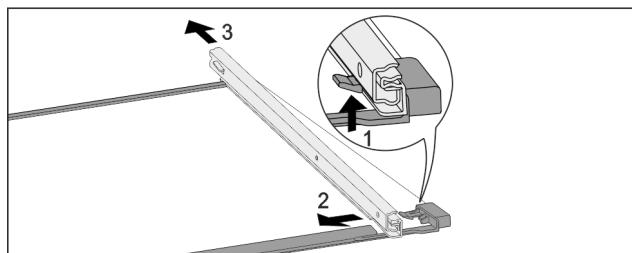

Fig. 179 Glass shelf with rails
- ▶ Push up front click-in hooks. Fig. 179 (1)
- ▶ Slide pull-out rails to the side Fig. 179 (2) and backwards Fig. 179 (3).